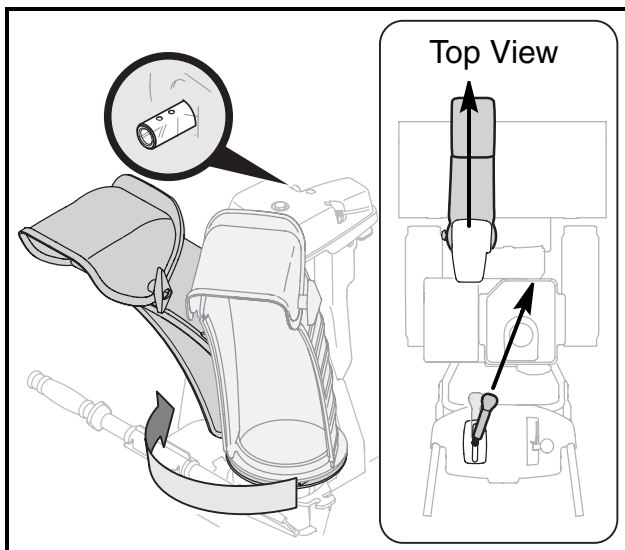

FIGURE 14
26. Squeeze the trigger on the joystick and rotate the chute by hand to face forward. The holes in the chute rotation gearbox coupler will be facing up. See Figure 14.